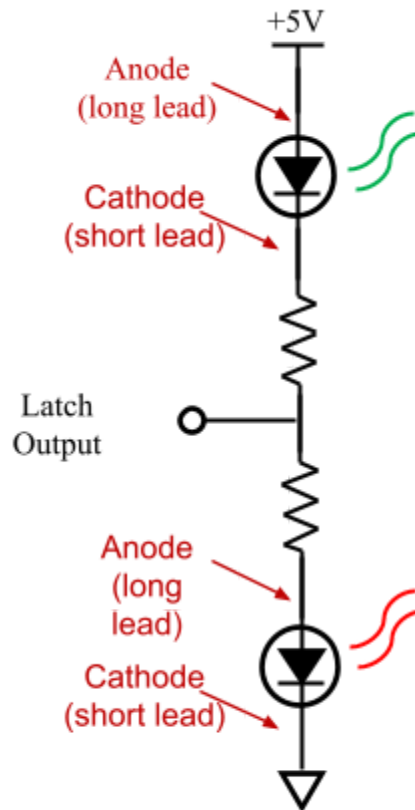

Figure 5.7 – LED Circuit
As a last step in the construction of your security system, you will add two LEDs to serve as indicators. Add the circuit shown in Figure 5.7 to the latch output (Q) from Task 2. Use two LEDs (one red and one green) as shown. Note the LEDs function much like the IR emitter in Lab 4. The anode (A) is the long lead and the cathode (C) is the short lead. If there is a sufficient positive voltage (measured from anode to cathode) across the LEDs, they will allow current to flow and emit light. Choose the resistor values to ensure that no more than 10mA flows through the LEDs. Verify that only one of the LEDs is lit at any point in time and that the green light is on under normal conditions and the red light is on in an alarm situation. Show your TA when your system is functioning and give yourself a pat on the back.